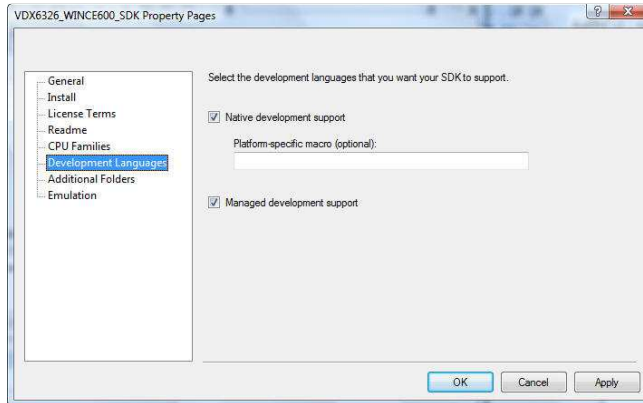

Fig. 32 - SDK Property Page
- On the left side of **SDK Property Page**, click on **Development Languages** and select both the **Native development support** and **Managed development support** check box on the right, as shown in Figure 32.